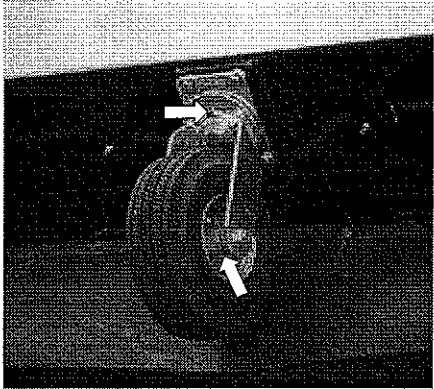

figure 16
- Front caster axle and swivel zerks (figure 16)